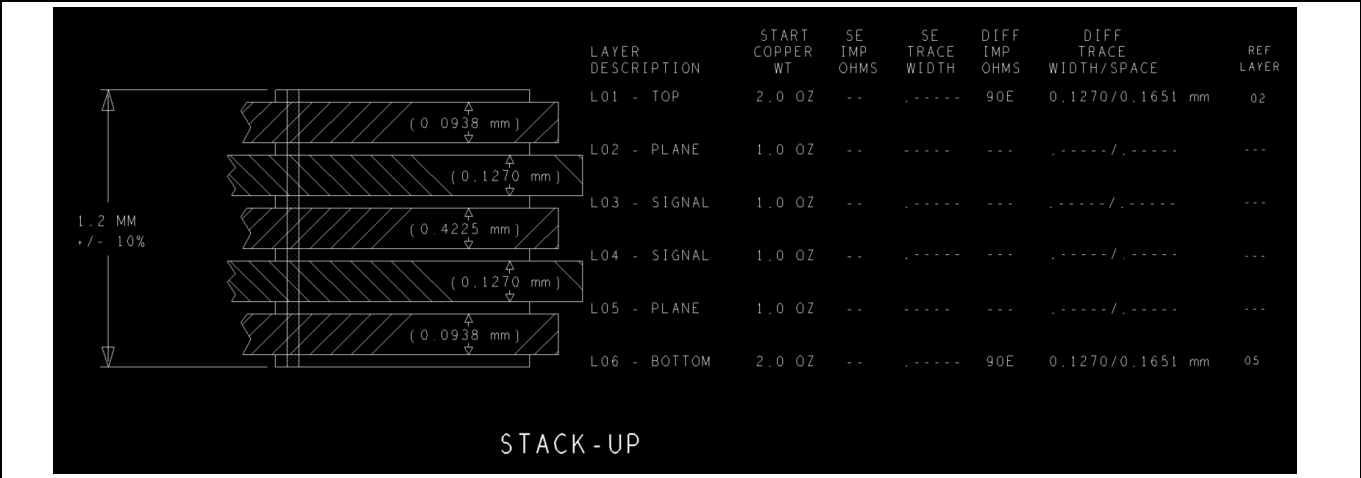

Figure 26 6-layer PCB stackup
Figure 26 shows the recommended stackup for a 1.2-mm thick PCB. The values of width (W) and spacing (S) are based on CY7110 EZ-PD™ PMG1-S0 MCU prototyping kit.